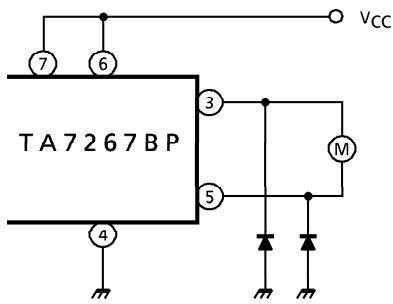

Fig.4
(3) Additional diode
- i) If the braking operation is so loose, connect a additional diode between each output to GND. (See Fig.4)